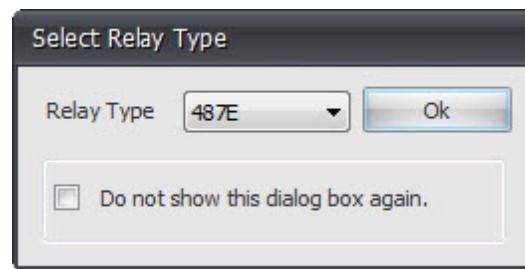

Figure 7.26 SEL Relay Selection
Step 2. If you agree with the disclaimer message that displays, click the **I Agree** button to continue testing. Click **OK** on the **Select Relay Type** dialog box to select **487E** (*Figure 7.26*). Alternatively, you can choose **787** from the dropdown menu.